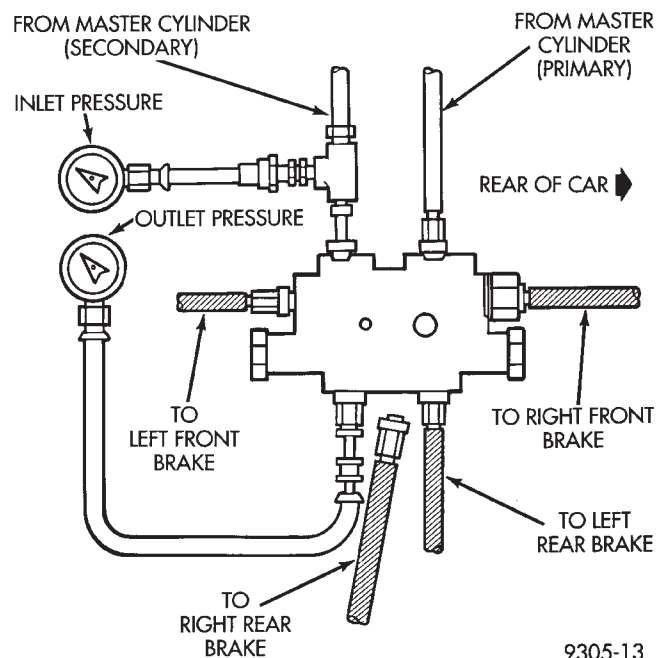

Fig. 19 Tube Connection For Right Rear Skidding
(1) Install one gauge and (TEE) of set C-4007-A between the brake line from the master cylinder secondary port and the brake valve assembly (Fig. 19).
(2) Install the second gauge of set C-4007-A to the right rear brake outlet port (Fig. 19). Gauge to be attached using an adapter tube, made from a short piece of brake tube and (1) 3/8 x 24 tube nut, and (1) M10x1 tube nut. Connect the hose to the valve. Bleed the hose and gauge.
(3) Have a helper exert pressure on the brake pedal (holding pressure) to get a reading on the valve inlet gauge and check the reading on the outlet gauge. If the inlet and outlet pressures do not agree with the values on the following chart, replace the valve.